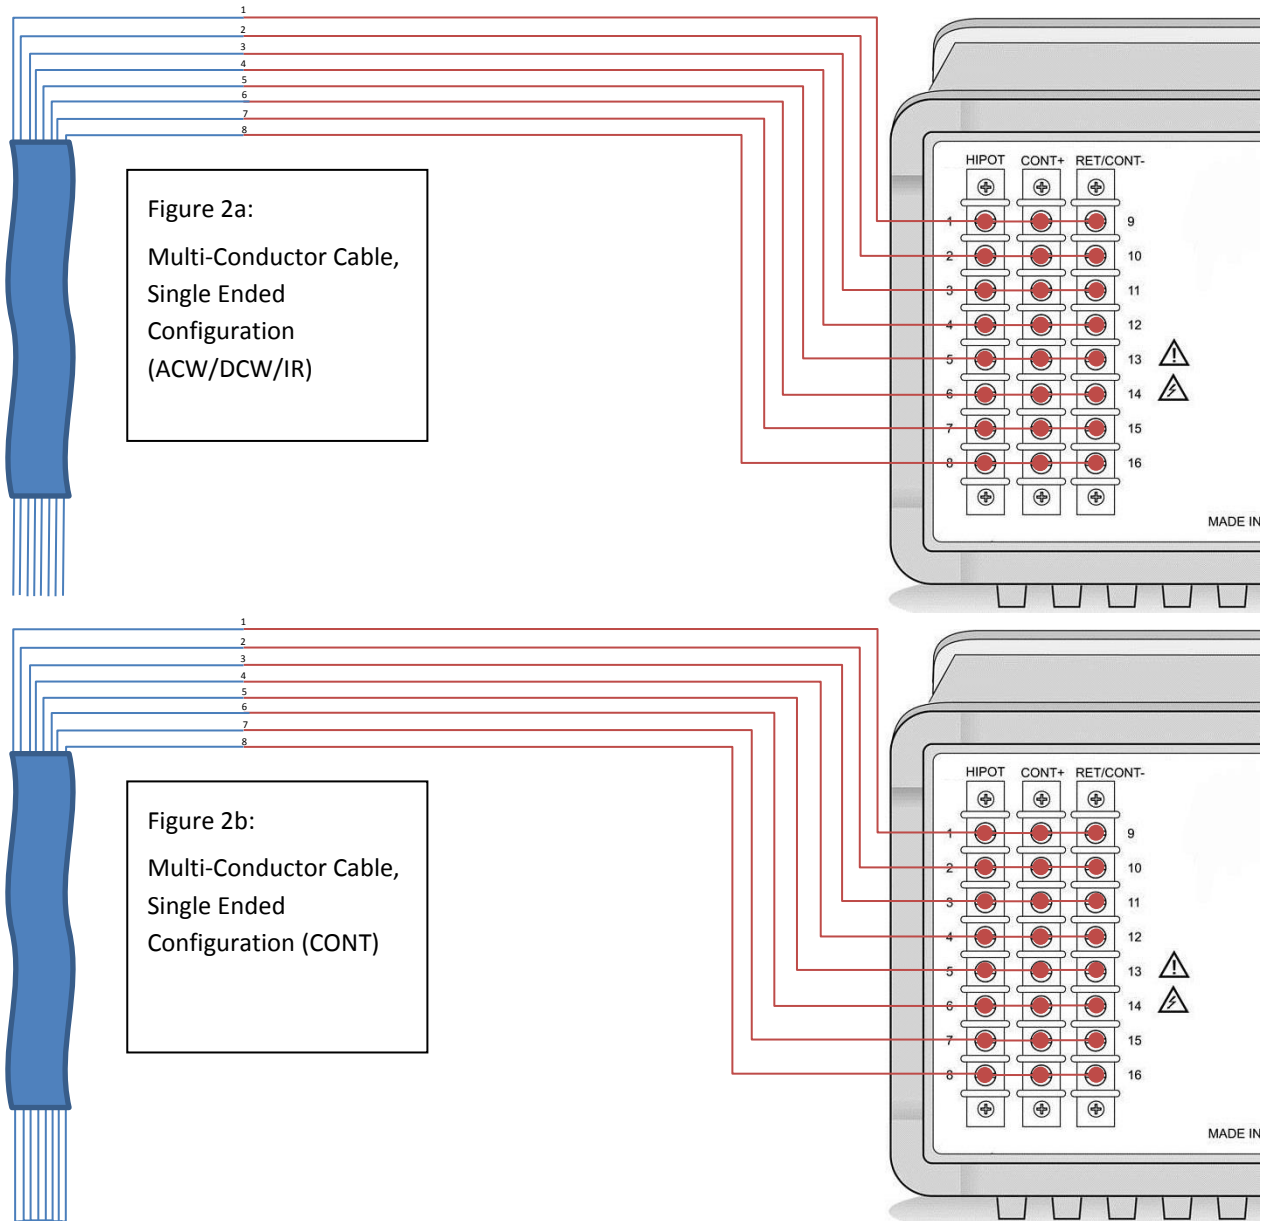

Figure 2a & 2b: To test an 8 (or fewer) conductor cable (single ended configuration) –
- Connect the cable wires to terminals 1+9 through 8+16 respectively (this can be more easily accomplished by shorting the terminals together as shown in figure 2a, 2b).
- The user can perform HV testing (ACW, DCW or IR) between any one or more conductors to any other one or more conductors (or to ground), with the other end of the cable open (as shown in Figure 2a), using the
Wires configured as in Figure 2a